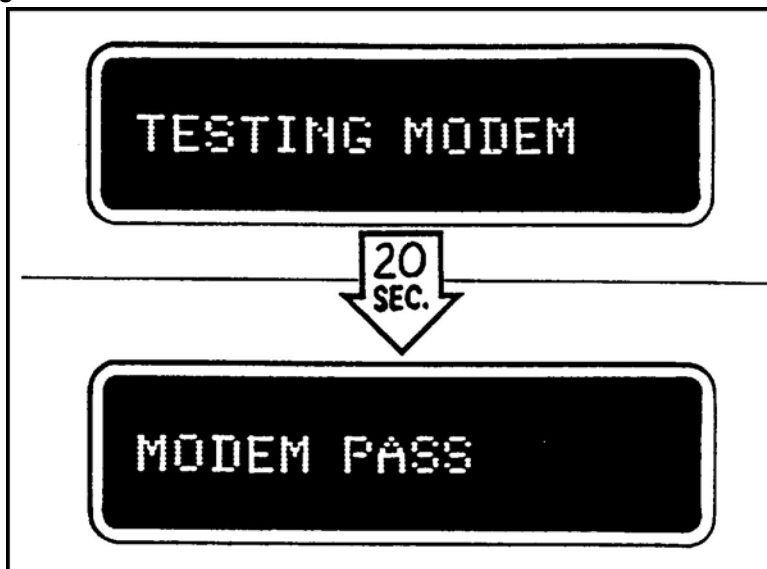

Figure 18. Modem test.
- c. The MBC's screen should now read TESTING MODEM (Figure 18). This test lasts about 20 seconds, and then the display should change to MODEM PASS.